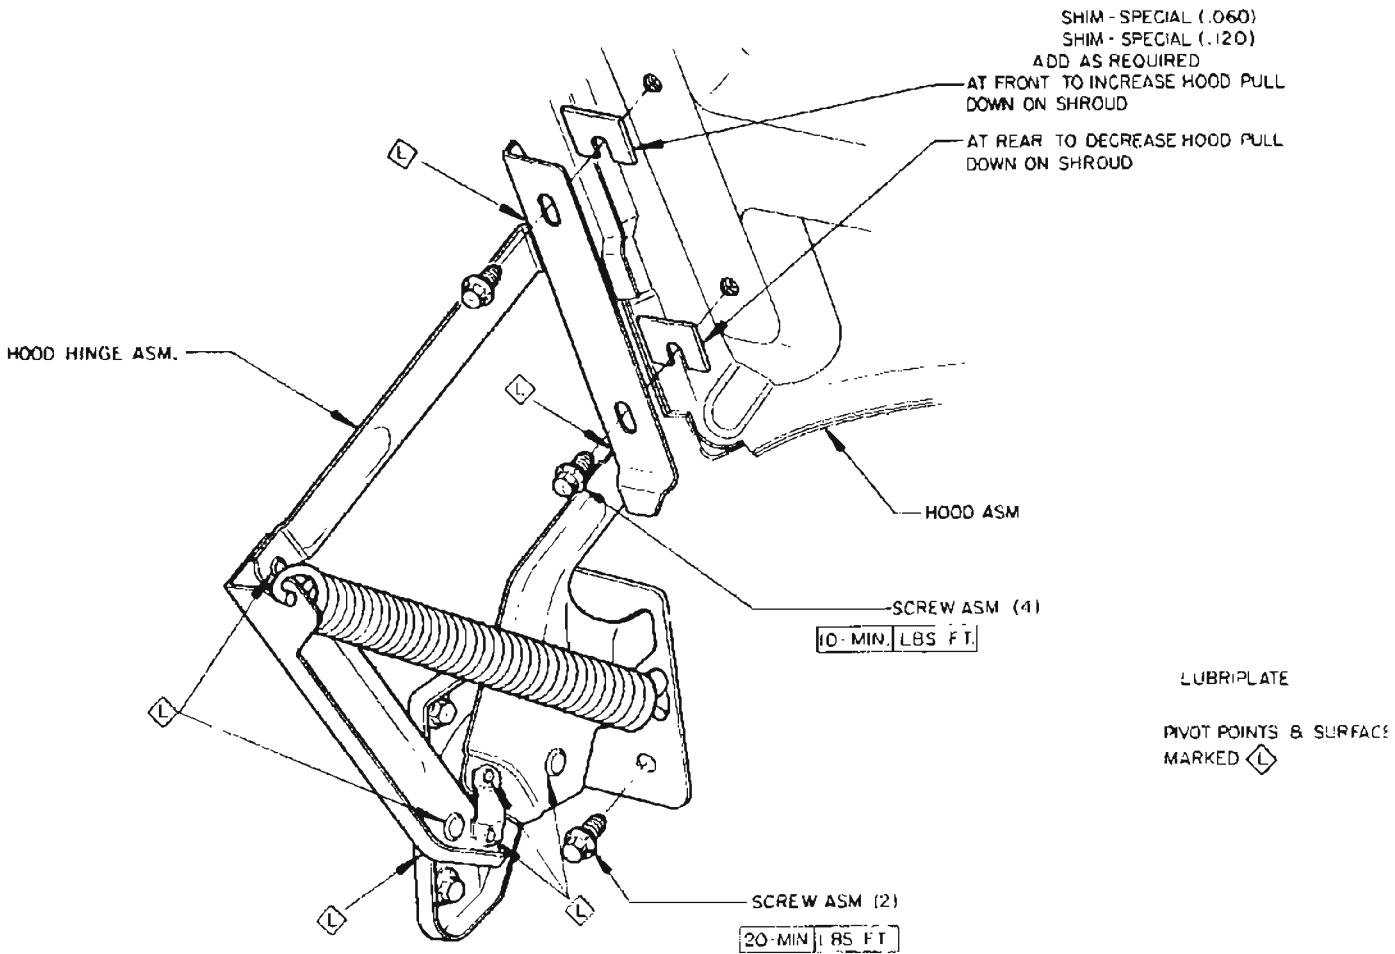

Figure 12-6—Hood Hinge Assembly—44-46-4800 Series
To prevent hood panel flutter, the rear end of hood panel must have firm contact with the lacing attached to cowl ledge. The hood may be raised or lowered by adjustment at hinges. See Figure 12-6.
1. Rear Height. Rear hood height is determined by special washers between hinge and hood. Removing or adding washers will shift rear of hood up or down with respect to hinge. See Figure 12-6.
at the front bolts. See Figure 12-6
Too much tension is indicated if the rear area of the hood bends as it is closed. To decrease tension, add special washers between the hood and the hinges at the rear bolts. See Figure 12-6.